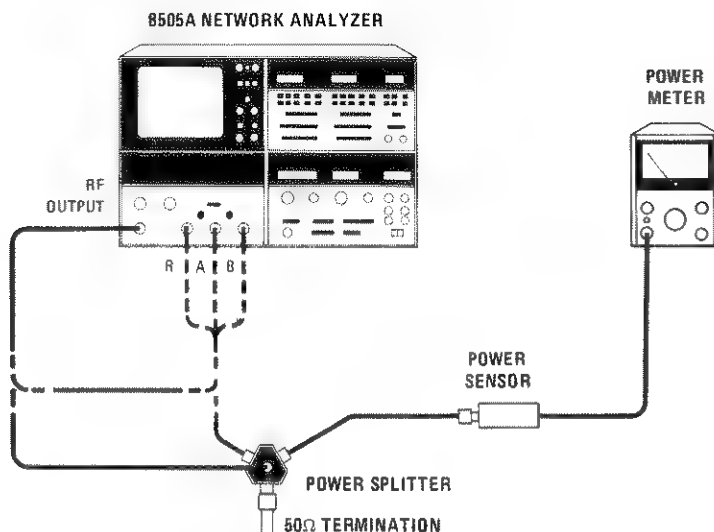

Figure A2-18. Absolute Magnitude Frequency Response Test Setup
- b. Connect equipment as shown in Figure A2-18 with "R" INPUT cable connected directly to RF OUTPUT connector.
- d. Connect equipment as shown in Figure A2-18 with RF OUTPUT to center of Power Splitter and one leg of power splitter to port "R" and the other leg to Power Sensor and Power Meter.